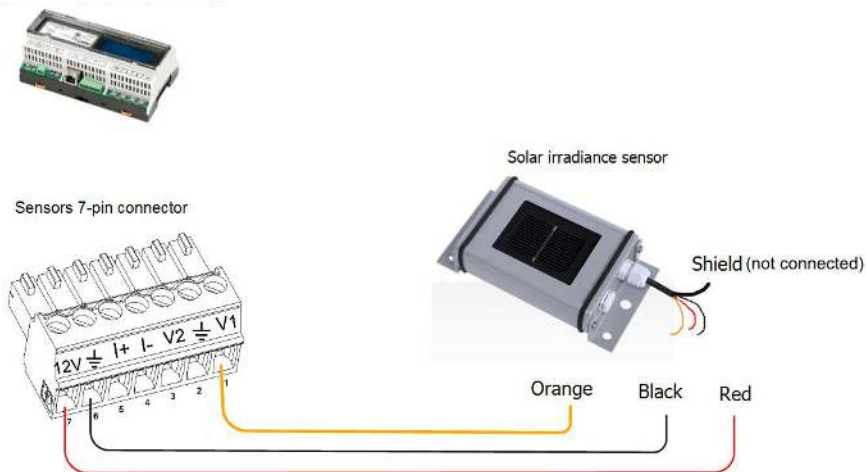

Figure 20: Solar irradiance sensor connection
- 1 Connect the thin wires to the control and communication gateway sensors connector as follows (see Figure 20):